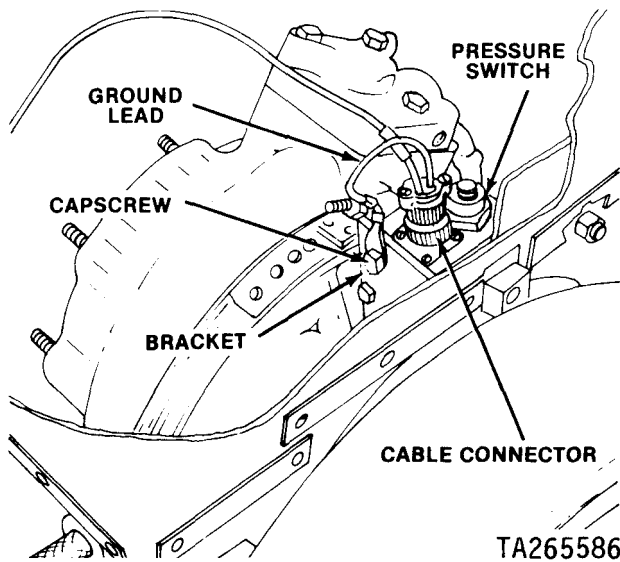

Figure 4-6. Removing or Installing Starter and Dust Detector Electrical Cable
(2) Remove capscrew (fig. 4-6). Disconnect electrical cable connector from pressure switch,